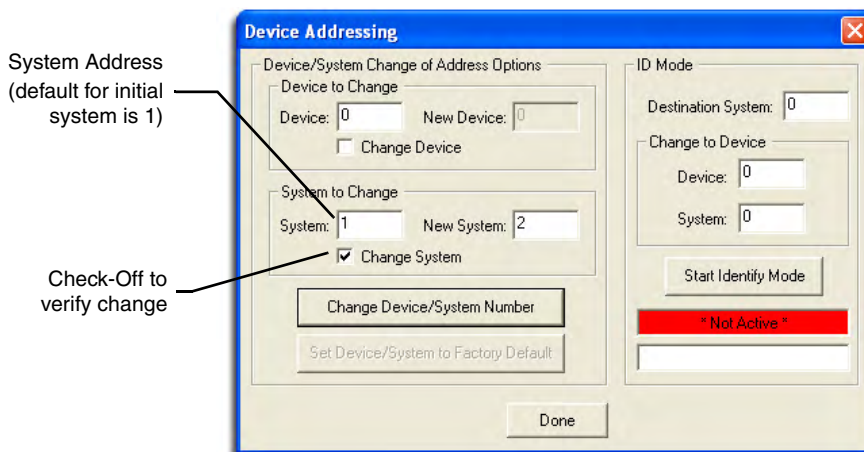

FIG. 25 Device Addressing tab (changing the system value)
1. Access/open the Device Addressing dialog (FIG. 25) by either one of these two methods: